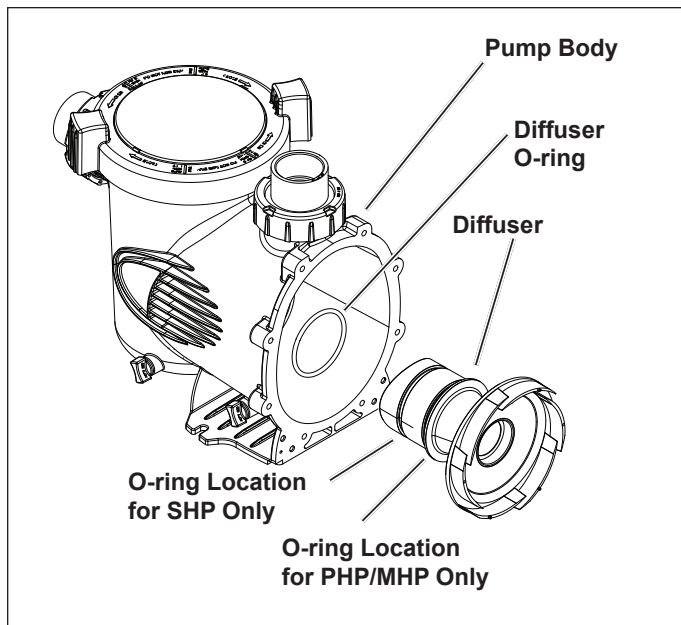

Figure 7. Location of the Diffuser O-ring
6. Make sure the diffuser o-ring, o-ring groove, and o-ring seal area are clean and free of debris, which could cause a leak. If you removed the diffuser o-ring, install it into the groove you removed it from, see Figures 7 and 8. If grease is used to retain the o-ring, it **must** be silicone based. **Do not** use petroleum-based grease. It **will** destroy the o-ring.
7. Slide the diffuser into the mating hole in the pump body. While supporting the motor, start two (2) screws on opposite sides. This will hold the motor in position while you start the other six (6) screws.
8. Tighten the screws lightly in a crossing "X" pattern using a 9/16" wrench, starting with the inner (middle) four (4) then the outer (top and bottom) four (4) to draw the backplate to the body in an even manner. Once all the screws are snug, torque in the same order to 18 foot-pounds.